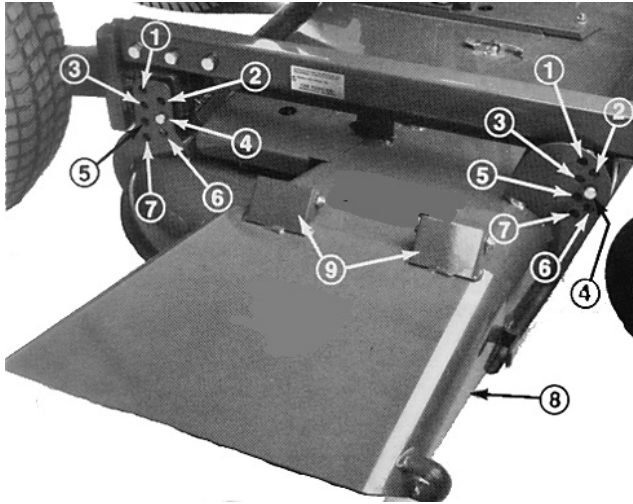

Figure 8
- Lower the carrier frame and install 4 clevis pins through the desired height-of-cut bracket holes and frame brackets. Secure all 4 pins with hairpin cotters (Fig. 8).